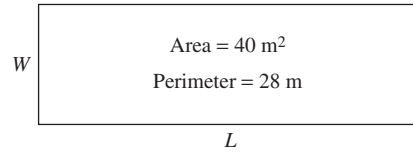

Figure P2.31 A rectangle of length L and width W .
- 2-31.** The perimeter of a rectangle shown in Fig. P2.31 is given by